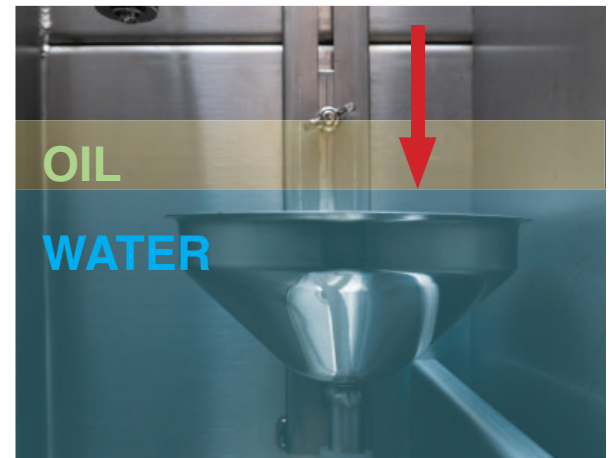

Fig. 27
2. Adjust the oil funnel to be slightly below the level of the oil (see Fig. 27).